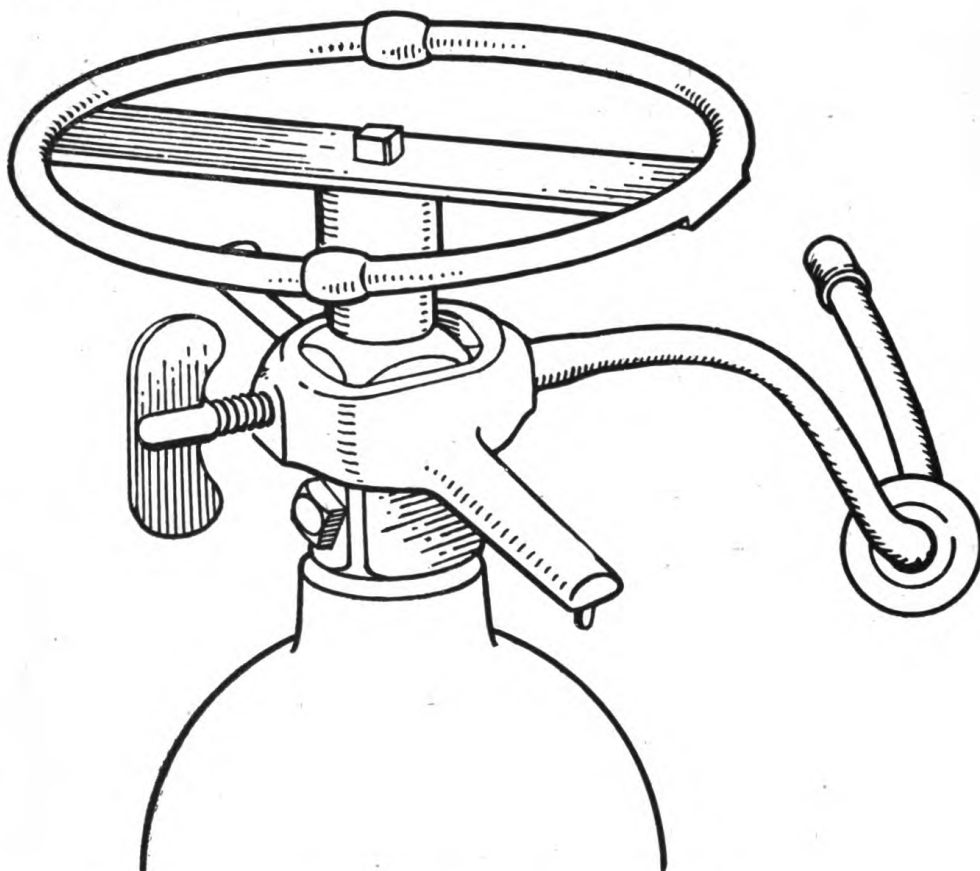

Figure 4. Oxygen cylinder yoke connection.
b. Assembling. (1) *To mount oxygen cylinder.* (a) Slip the oxygen yoke over the neck of the cylinder. Place it so the projection where the tube attaches to the yoke fits into the outlet hole of the oxygen cylinder (fig. 4). There should be a washer at this connection.